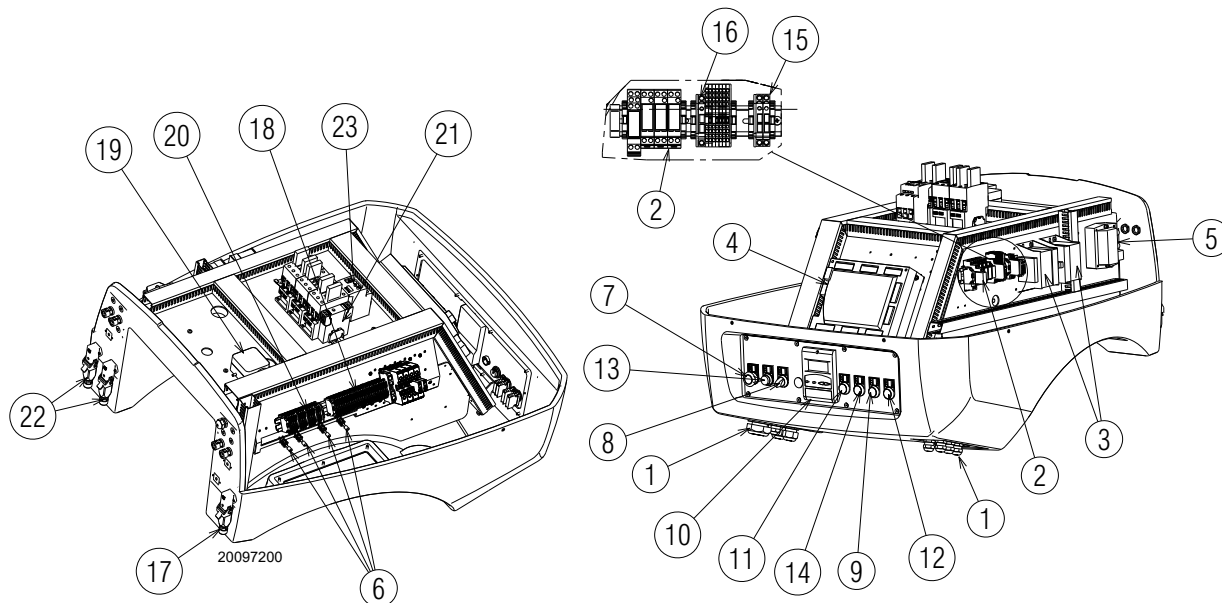

Fig. 6
- **Flame control lockout:** switching on of button 13)(Fig. 6) (red led) signals that the burner is in lockout. release by pressing the pushbutton 13)(Fig. 6).